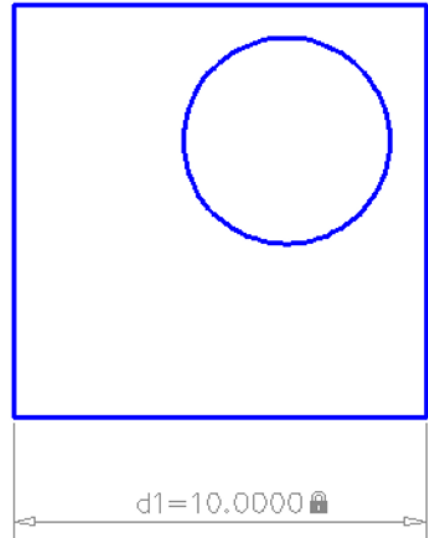

FIGURE 19-9:
7. Press Enter to confirm the value and the dimension location (see Figure 19-9).